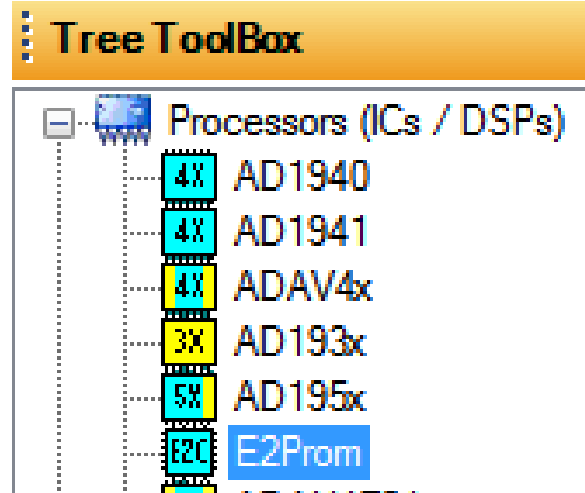

Figure 72. E2Prom IC Selection in SigmaStudio
1. Add an **E2Prom** block to the project space of the **Hardware Configuration** tab. From the **Processors (ICs/DSPs)** folder, click **E2Prom** (see Figure 72) and drag it into the project space to the right of the toolbox.